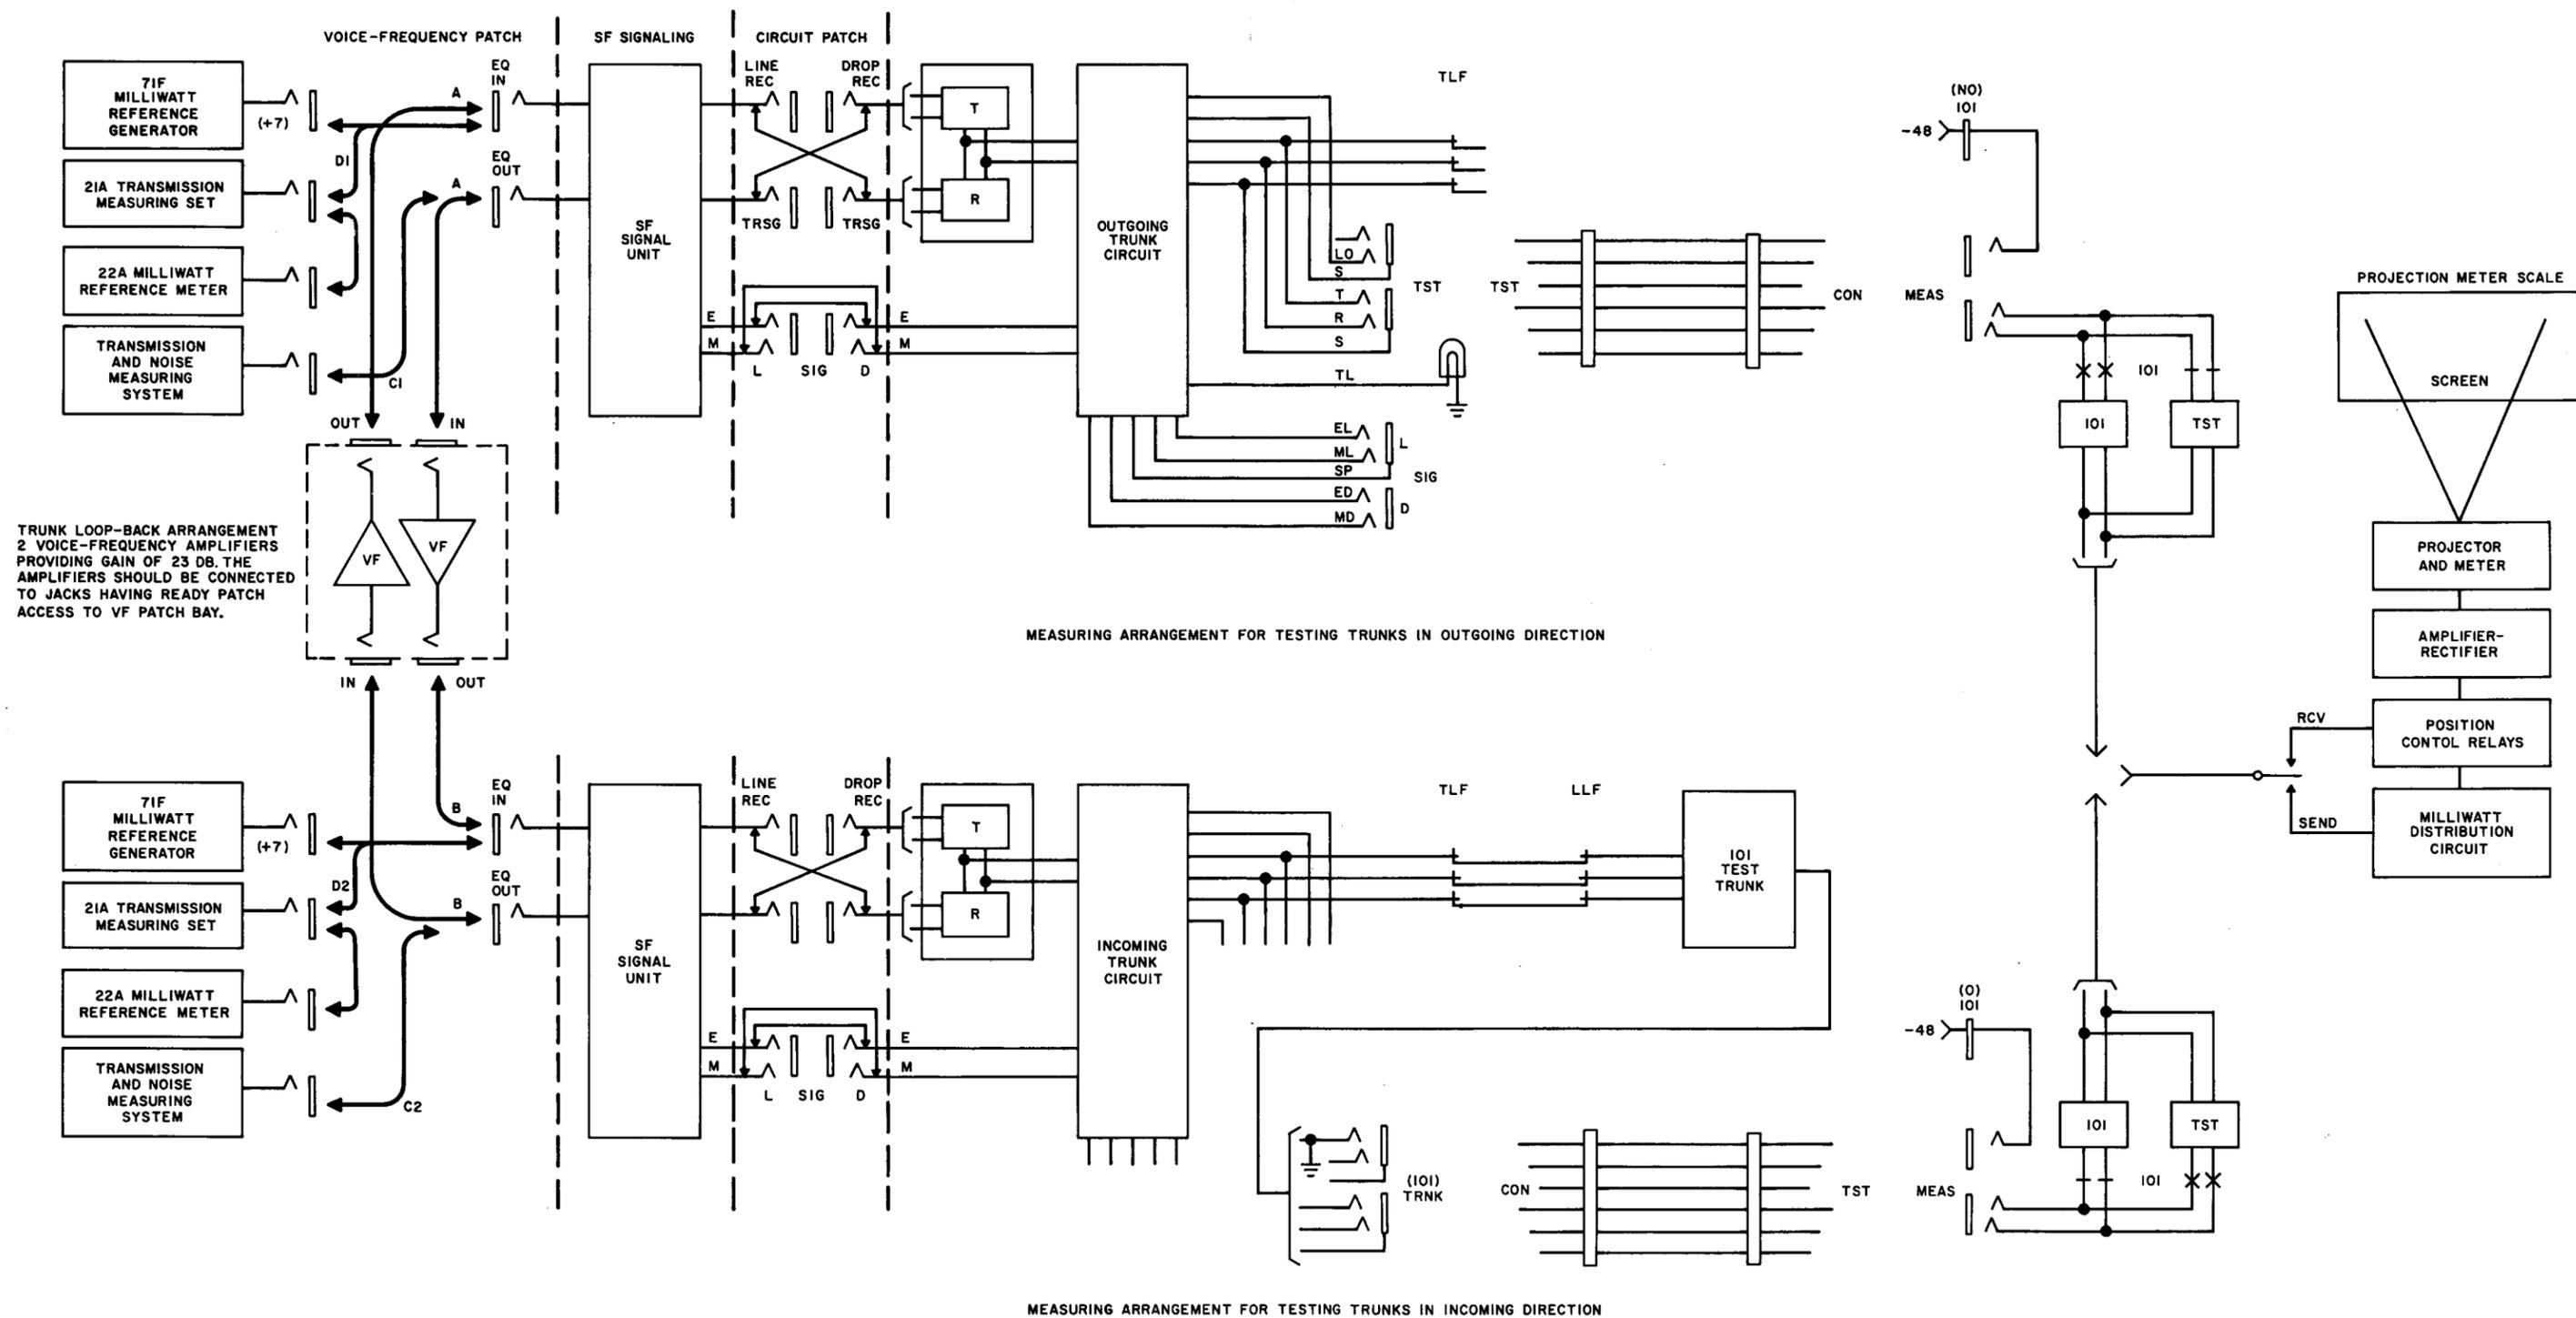

Fig. 1 — Measurement and Adjustment of Office Losses
1.11 Test connections for making office wiring loss measurements on trunks in outgoing and incoming directions are shown in Fig. 1. Also shown is a loop-back arrangement which may be used for establishing correct connections through the switches without involving the distant terminal. This arrangement is used only for establishing the proper circuit and is not used during measurements. If such an arrangement is not available, assistance from the distant end will be required in establishing the circuits for measurements.
1	<p>At VF Patch Bay: Connect A and B patches shown in Fig. 1 making a loop-back circuit within the office.</p>
5	Patch EQ OUT jack of outgoing trunk under test to TST-600 jack of transmission measuring system (C1 patch, Fig. 1).
8	At VF Patch Bay: Remove the patches previously made to the EQ IN and EQ OUT jacks of the outgoing trunk under test. Terminate the EQ OUT jack in 600 ohms. Patch the EQ IN jack to the calibrated $1000 \bullet +7 \bullet 600$ jack or to the OSC OUT jack (D1 patch, Fig. 1). If oscillator is used, adjust output to 1000 cycles at $+7$ dbm.
<p>Note: If tests and adjustments are to be made on trunks already in service, the trunks should be removed from service at each end while this procedure is being performed.</p> <p>Terminate the carrier channels at the MOD IN and DEMOD OUT jacks with 600-ohm terminations.</p> <p>1 At VF Patch Bay: Connect A and B patches shown in Fig. 1 making a loop-back circuit within the office.</p> <p>2 At Testboard: Seize the outgoing trunk with a TST cord connected to trunk TST jack.</p> <p>Operate associated TALK-MON and HOLD-CLOSE 3RD keys to TALK and CLOSE 3RD positions, respectively.</p> <p>When cord supervisory lamp is lighted, pulse forward code 101. When pulsing is completed, depress ST key momentarily.</p> <p>Answer the incoming call by connecting a CON cord (of a second cord pair) to the 101 trunk jack.</p> <p>When an off-hook condition is observed on the TST cord, connect TST cord of second cord pair to MEAS jack. All keys associated with second cord pair should be in their normal positions.</p> <p>3 At VF Patch Bay: Remove A and B patches made in Step 1. Terminate EQ IN jack of incoming trunk under test in 600 ohms.</p> <p>Connect patch between EQ OUT jack of incoming trunk and TST-600 jack of transmission measuring system (C2 patch, Fig. 1).</p> <p>4 At Testboard: To transmit 1000-cycle test tone, operate SEND-RCV key to SEND.</p> <p>5 At VF Patch Bay: Measured signal level at EQ OUT jack should be -16 dbm. If required, substitute an 89-type resistor in the T pad to obtain a signal level of -16 ± 0.13 dbm. If the required adjustment in signal level is greater than 1 db, investigate the possibility of equipment deficiencies before making the change.</p> <p>6 If a plug-in SF unit is used in the incoming trunk under test, replace the unit with the correct zero-loss connector. See 1.04.</p> <p>7 At VF Patch Bay: Remove the patches previously made to the EQ IN and EQ OUT jacks of the incoming trunk under test. Terminate the EQ OUT jack in 600 ohms.</p>
8	<p>Connect EQ IN jack of incoming trunk under test to 1000•+7•600 jack or to OSC OUT jack (D2 patch, Fig. 1). If the oscillator is used, adjust the output to 1000 cycles at +7 dbm using 22A reference meter.</p> <p>At Testboard: Operate SEND-RCV key to RCV. Read received signal level on meter and determine loss.</p> <p>If the loss just determined differs from the computed value (EML), substitute an 89-type resistor in the R pad as required to obtain the EML, ± 0.13 db. If a change in level greater than 1 db is required, investigate the possibility of equipment deficiencies before making the change.</p>